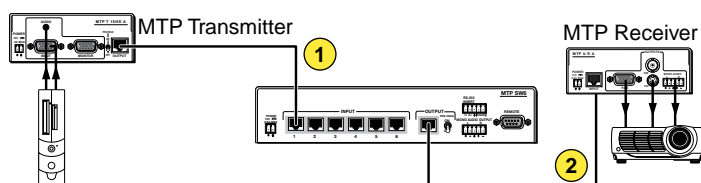

Figure 2. Transmission cables
The maximum distance is determined by the frequency and resolution of the signal that is input to the transmitter. **Figure 2** and **Table 1**, on the next page, define the switcher input cables (①) and output cables (②) and specify the recommended maximum transmission distances on the input and output. **Table 1** also defines the output Pre-Peak switch positions (**item ④** on page 10) using Extron Enhanced Skew-Free A/V UTP cable or UTP CAT 5, 5e, or 6 cable, terminated with RJ-45 connectors.